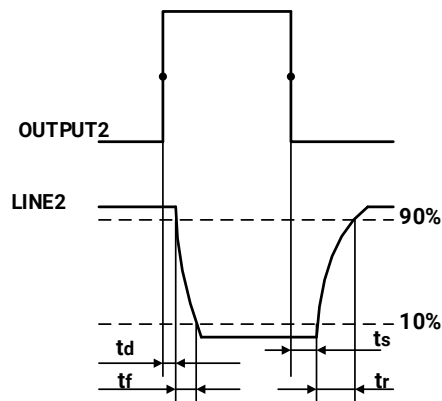

Figure 7-10 Parameter of Line2 output circuit
- Rising time delay = $t_d + t_f$: $<20\mu s$ ($0^\circ C \sim 45^\circ C$) (parameter description as shown in Figure 7-10)
- Falling time delay = $t_s + t_r$: $<20\mu s$ ($0^\circ C \sim 45^\circ C$) (parameter description as shown in Figure 7-10)